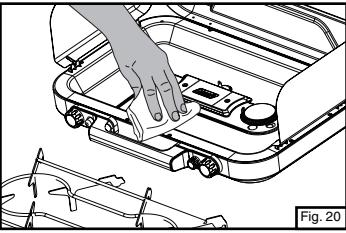

Fig. 20
- Wipe clean with soft cloth and mild dish detergent. Do not use abrasives. (Fig. 20)